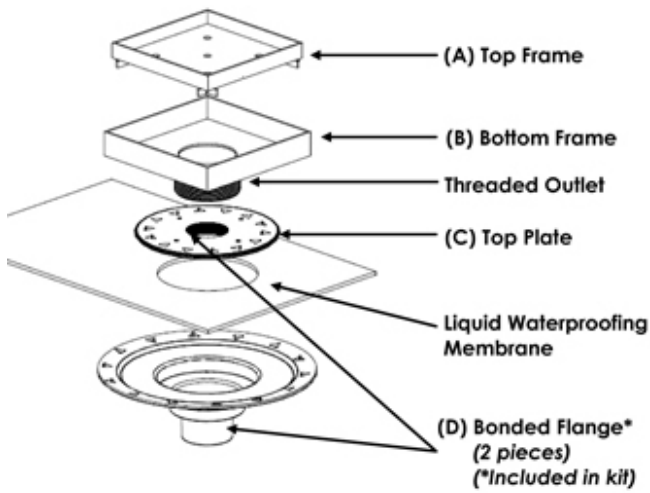

Fig. 1
Bonded Mortar Bed—Installation (FIG 1 & 2)
Before placing mortar, apply a slurry bond coat made from 254 Platinum. While the slurry bond coat is wet, spread 3701 Fortified Mortar and compact well. Mortar beds shall be 3/4" (19 mm) minimum to 2" (50 mm) maximum. Mortar beds in excess of 2" (50 mm) thick shall be detailed by the architect per TCNA F112. Prior to installing the HYDRO BAN® Bonding Flange Drain (1) make sure the backer board has been installed on the walls following the manufacturer's recommendations. The HYDRO BAN Bonding Flange Drain should be installed per TCNA Method B422. Before installing the HYDRO BAN Bonding Flange Drains make sure the opening in the floor where the waste line connection is made is 4-1/4" (108 mm) in diameter. The lip of the HYDRO BAN Bonding Flange Drain should sit approximately 1-1/4" (32 mm) above the substrate. Dry fit the HYDRO BAN Bonding Flange Drain through the hole and to the waste line below. When connecting to a 2" (50 mm) waste line which is already in place the top of the waste line should be 1-3/4" (44 mm) below the surface of the substrate. Make sure that the HYDRO BAN Bonding Flange Drain is PVC when connecting to a PVC waste line or ABS when connecting to an ABS waste line. Cement the HYDRO BAN Bonding Flange Drain in place using PVC solvent and cement for PVC and ABS solvent and Cement for ABS HYDRO BAN Bonding Flange Drain and waste line connections. Make sure that the HYDRO BAN Bonding Flange is level before the PVC or ABS cement has cured. DO NOT MIX materials, this will cause a failure in the pipe weld. When installed over EGP the bonding flange (1) Fig 1 and 2 can be screwed to the substrate using stainless steel or zinc coated 3" (76 mm) drywall screws. There are four countersunk holes around the perimeter of the bonding flange (1) for this purpose. The installation is now ready to accept the mortar bed.
Installing HYDRO BAN and Tile (Fig. 1 and Fig. 2)